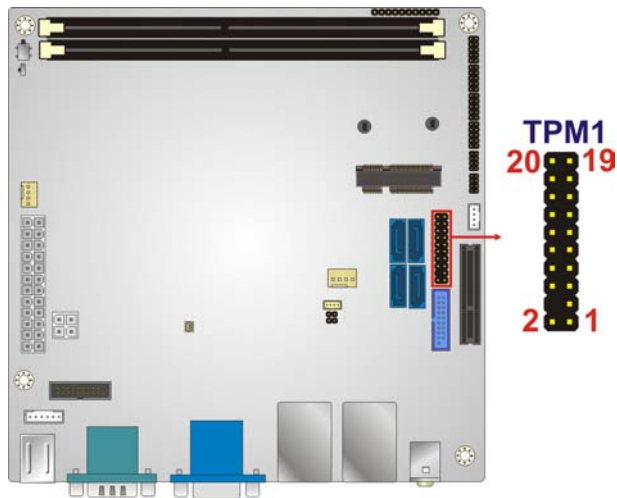

Figure 3-21: TPM Connector Location
- CN Location: See **Figure 3-21**